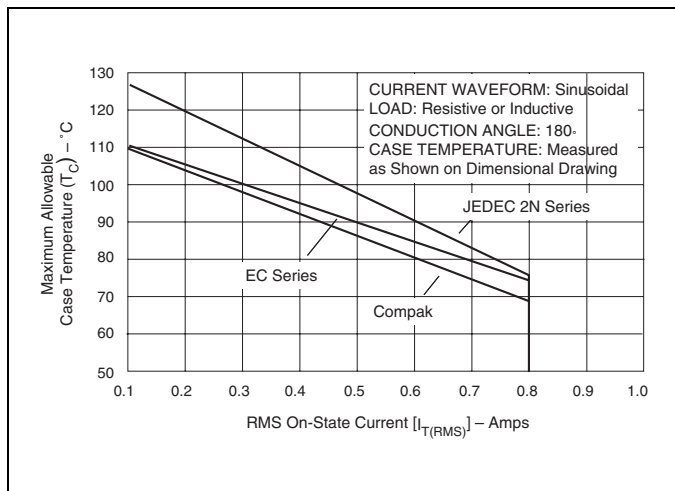

Figure E5.1 Maximum Allowable Case Temperature versus RMS On-state Current
- See Figure E5.1 through Figure E5.9 for current ratings at specified operating temperatures.
- See Figure E5.1 through Figure E5.9 for maximum allowable case temperature at maximum rated current.